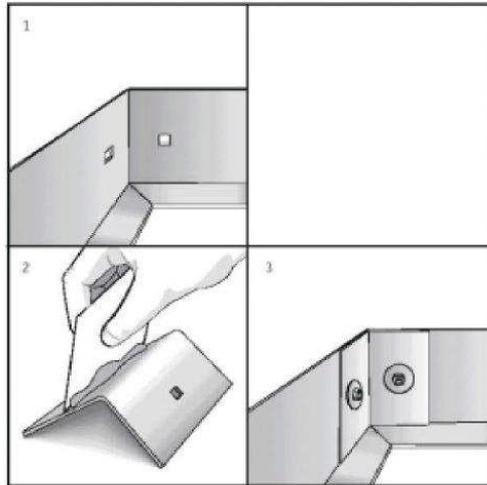

Figure 5.5 – Assembling Barrier
- 5.9 Apply Adhesive to the mating surfaces of the Corner Plate, spread the Adhesive evenly over the surface using a 1/8 inch v-notch trowel, and press the plate into place over the joint (Figure 5.5). Lightly bolt the Corner Plate to the Strips using a carriage bolt, flat washer and hex bolt arrangement.